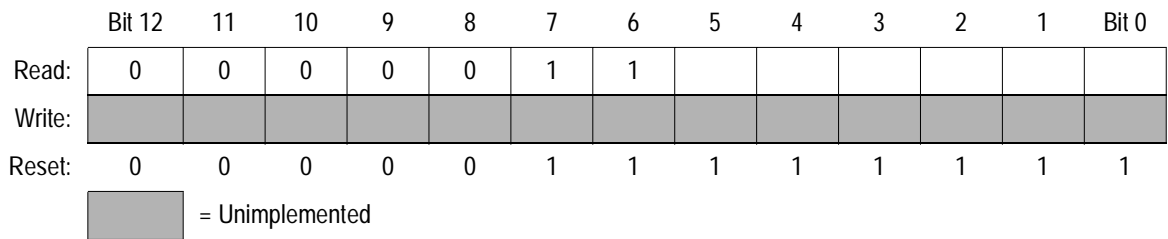

Figure 3-4. Stack Pointer (SP)
The stack pointer (SP) shown in **Figure 3-4** is a 13-bit register that contains the address of the next free location on the stack. During a reset or after the reset stack pointer (RSP) instruction, the stack pointer initializes to \$00FF. The address in the stack pointer decrements as data is pushed onto the stack and increments as data is pulled from the stack.